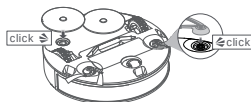

Figure 1-1
2. Align and install the mop installation shaft and side brushes into the robot. A "click" sound indicates they are installed in place (see Figure 1-1 below).